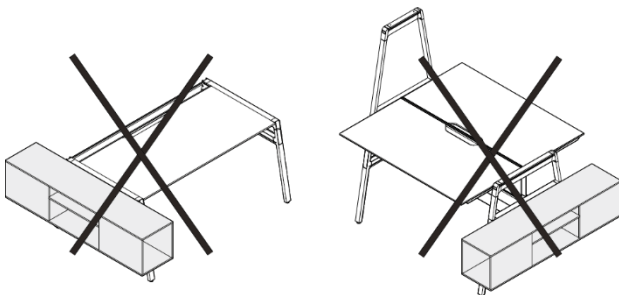

Figure 25 Side storage compartment, impermissible attachment
- Single workstation (see Figure 25, left).
- On an arch attachment (see Figure 25, right).